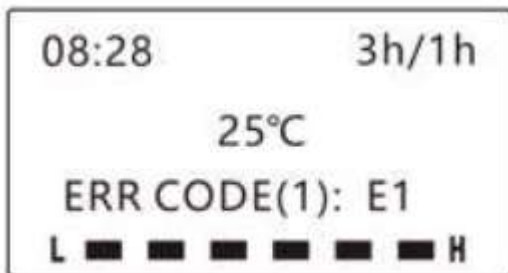

Figure 14
d. Fault reset when "ERR Code (1): E1" icon shown on LCD screen, as figure 14, check the fault code table, according to the excluded method, long press - button, Error code disappears.